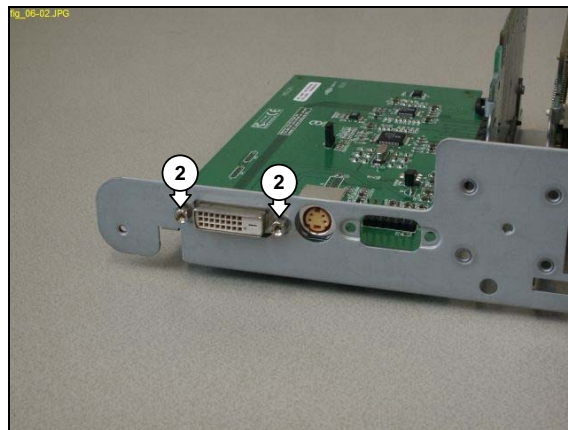

Figure 12.6-2
4. Remove the 2 screws (2) from the DVI connector. See Figure 12.6-2.